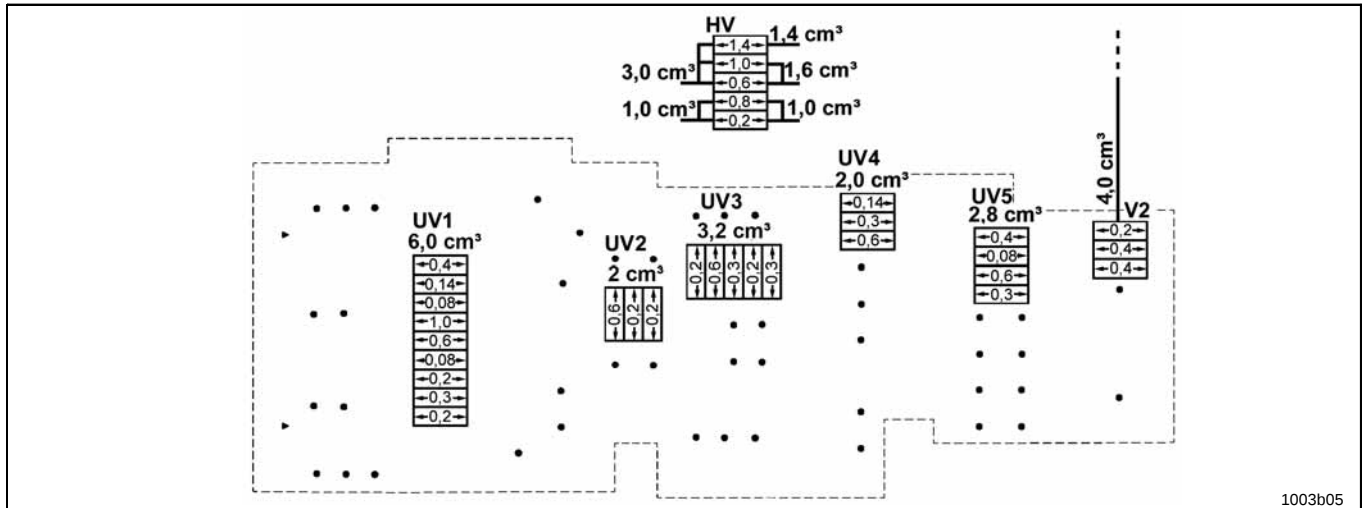

Fig. 36 Example for determining the size of the main metering device
- First, allocate one outlet of the main metering device to each secondary metering device (UV).
- Check whether one or several lube points require larger lubricant quantities. As shown in Fig. 36, two lube points are provided with lubricant via one metering device V2. Due to the increase lubricant requirement, metering device V2 is connected directly to a pump element (output 2 cm³).
- Maximum size of the main metering device (HV): SSV D 22.